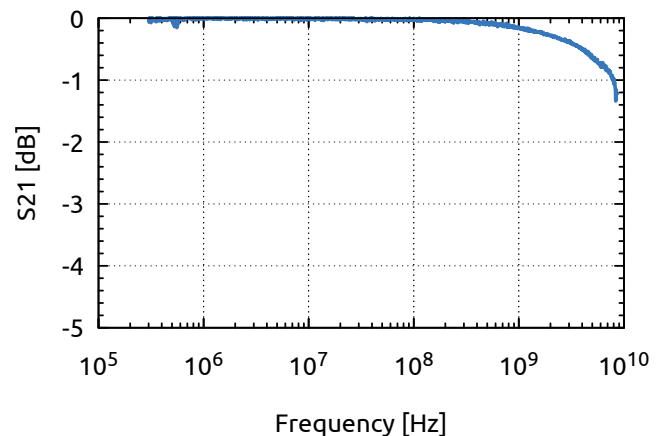
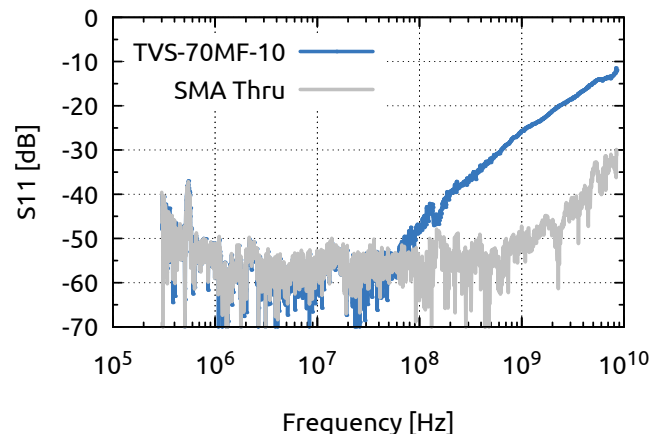

Figure 2: Typical frequency response (insertion loss) S21 (=S12) versus frequency.
Figure 3: Typical return loss S11 (=S22) versus frequency. As a reference the return loss of a SMA (female/female) thru is also shown.
Fig. 2 shows the typical insertion loss of the TVS-70MF-10. In Fig. 3 the typical return loss is presented.
- Compare the measurement results with the typical characteristics shown in Fig. 2 and Fig. 3.